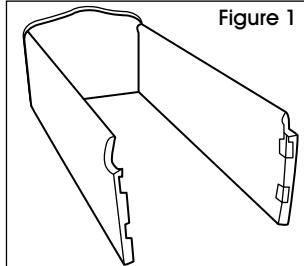

Figure 1
2. Repeat with the left side panel. (See Figure 1)